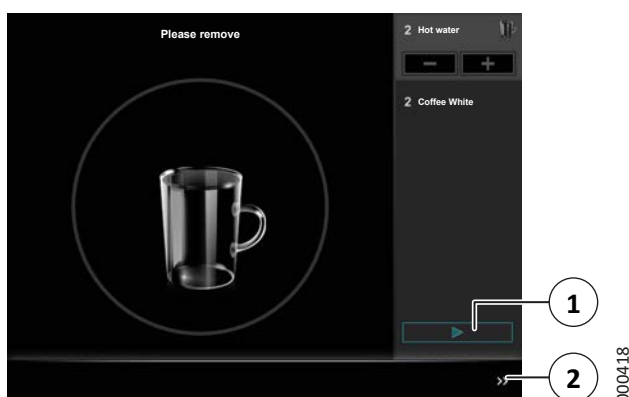

Fig. 22: Dispensed product in batch mode
- Once a product has been dispensed from the batch, close and open the batch with the symbol in the bar (2) (see Fig. 22).
- While the product is being dispensed, press the “Pre-set batch input” button (2).